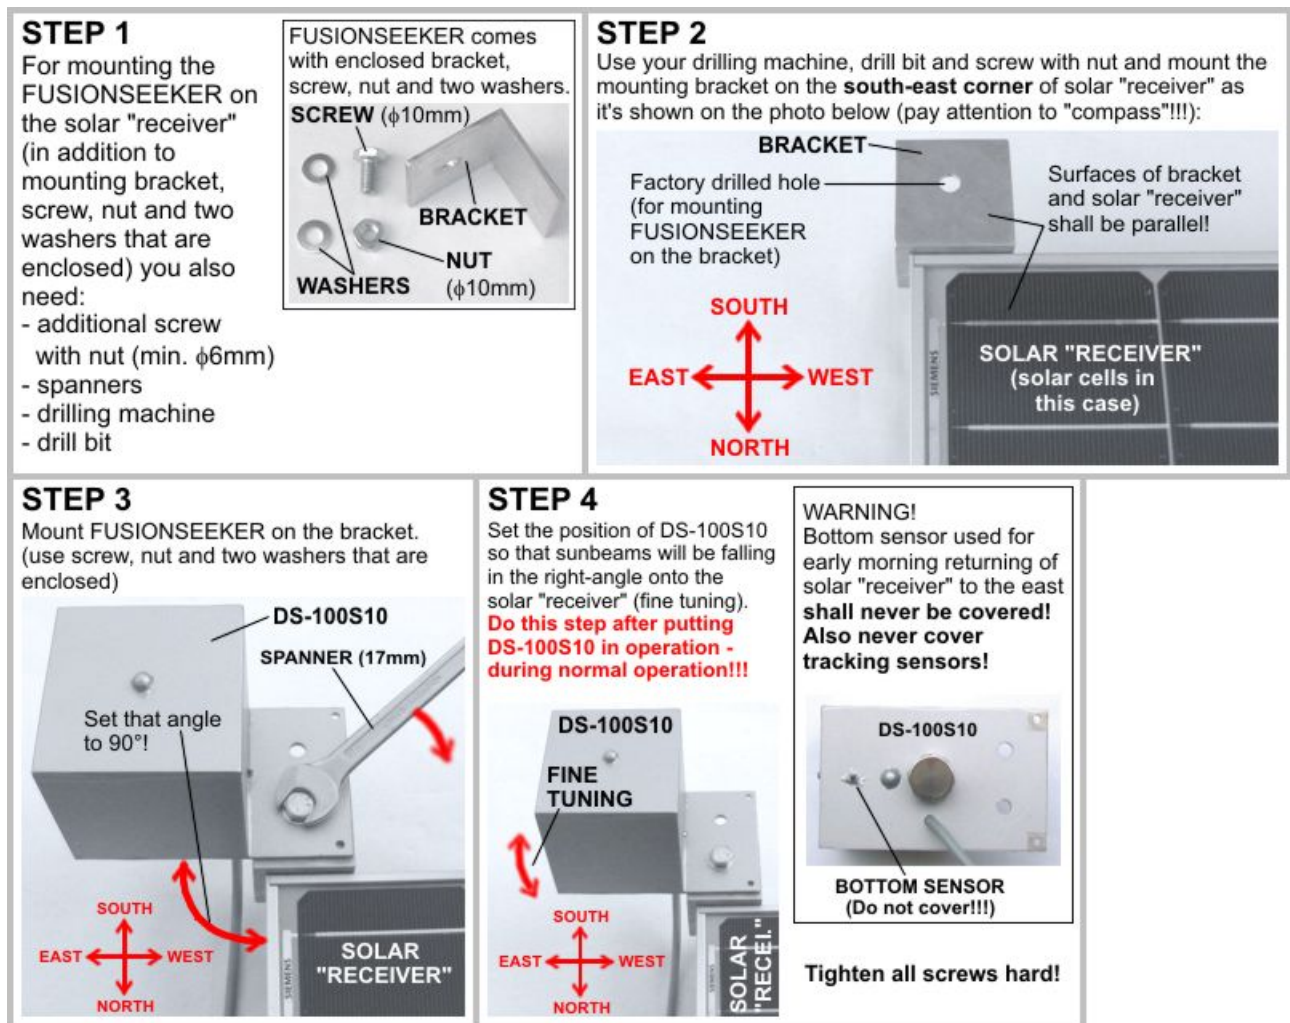

Figure 9: Mounting FUSIONSEEKER DS-100S10 on the solar "receiver" (southern hemisphere)
b) If your tracker (solar "receiver") is positioned somewhere in the southern hemisphere of the earth mount DS-100S10 on the south-east corner of your solar "receiver" as it's shown on Figure 9: